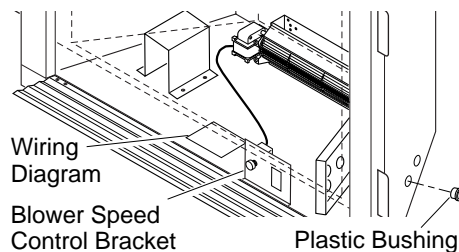

Figure 32 - Installing Plastic Bushing and Wiring Diagram Sticker
- a. **If your fireplace system is installed as a freestanding unit with an accessory mantel**, determine whether the power cord will exit the left side or the right side of the firebox. Install one plastic bushing provided into the 1 1/2" hole in the outer casing through which the power cord will exit. Install the second plastic bushing provided into the floor support bracket if exiting through the right side (see Figure 32). Route power cord through (both) plastic bushing(s) and plug the power cord into a properly grounded 3-prong wall receptacle near the firebox.
10. Peel off the backing paper and stick the supplied wiring diagram decal on the firebox bottom approximately 3" to the right of the blower speed control bracket (Figure 32).